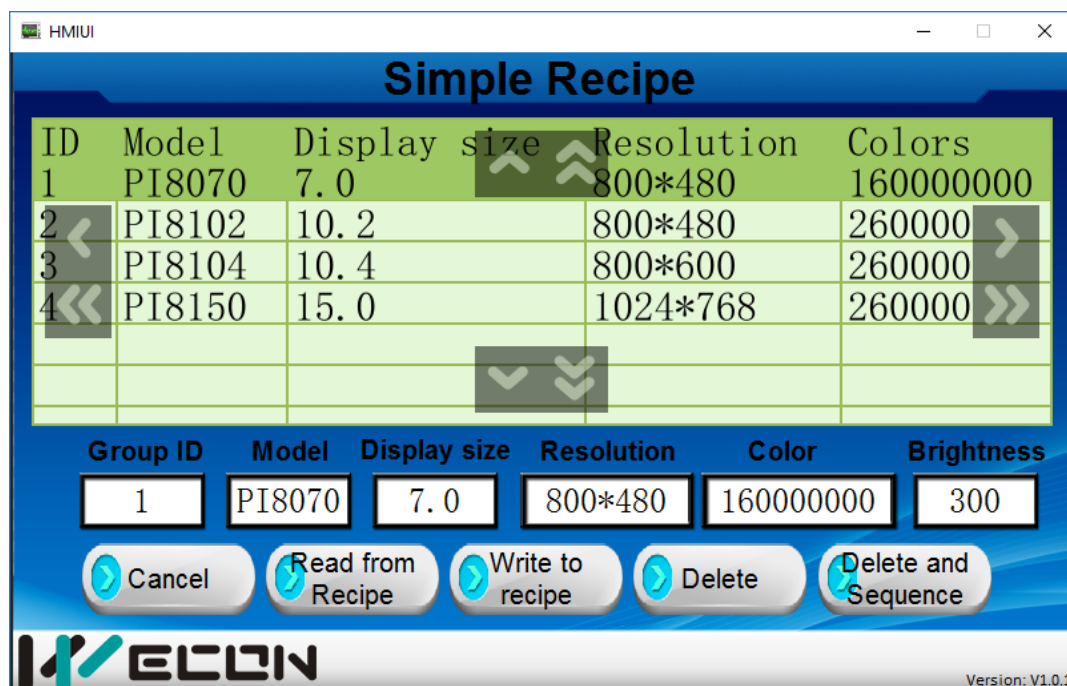

Figure 5
- 1) After compiling, please check project by “off-line”, you will get project windows as figure 5 shows, it displays simple recipe information;